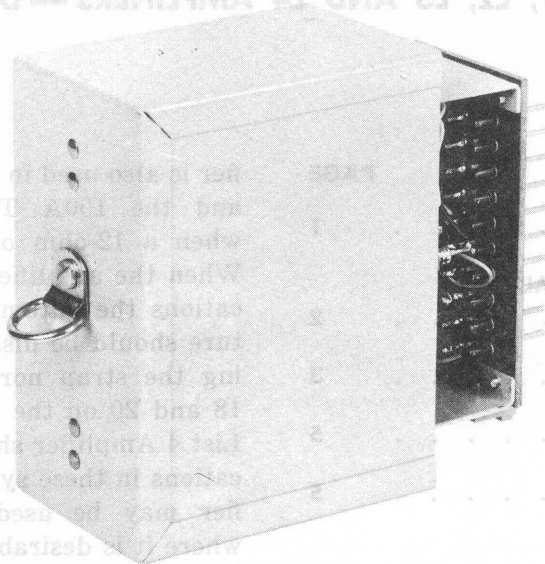
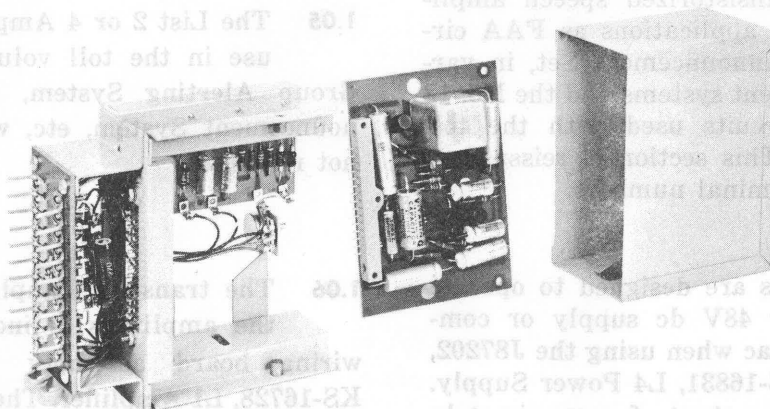

Fig. 1 — View of Amplifier Assembled in Cover
Fig. 2 — View of L1 and L3 Amplifiers with Cover Removed
1.07 Figs. 1 and 2 show the assembled and unassembled amplifiers. All units appear the same in the mounting case and mount in the same manner. Fig. 2 shows the KS-16728, L1 Amplifier (printed circuit board) and the compression circuit.